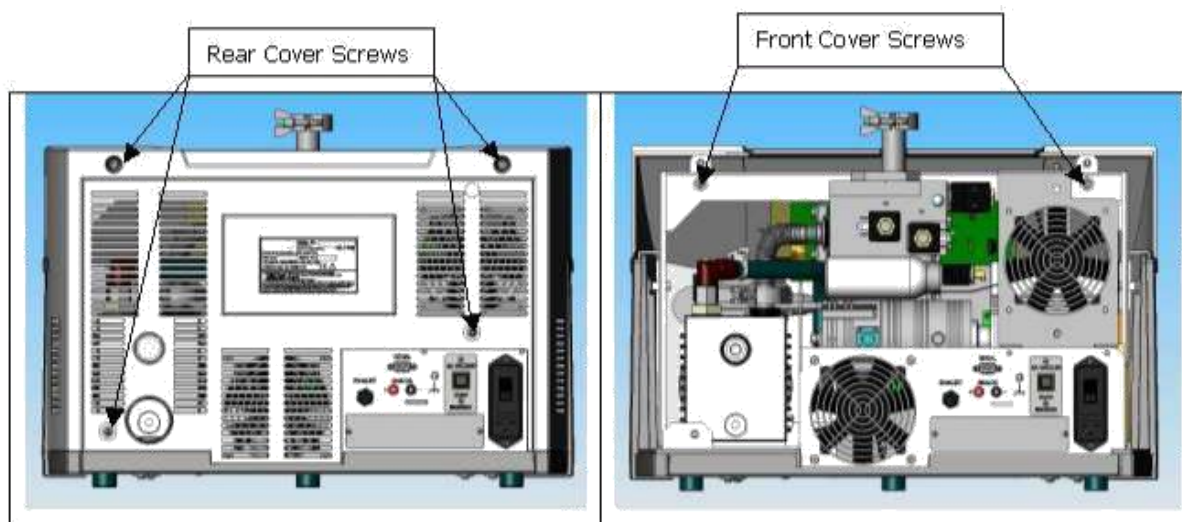

Figure 1: Rear and Front Cover Screws
3. Using an extended length M5 Allen wrench, remove the four screws holding the rear plastic cover (Figure 1: Rear and Front Cover Screws) and detach the rear plastic cover from the unit.
4. Remove the four screws holding the front plastic cover and detach the cover from the unit. Two screws are situated at the front of the unit (not shown) and two screws are positioned inside the unit (Figure 1: Rear and Front Cover Screws).